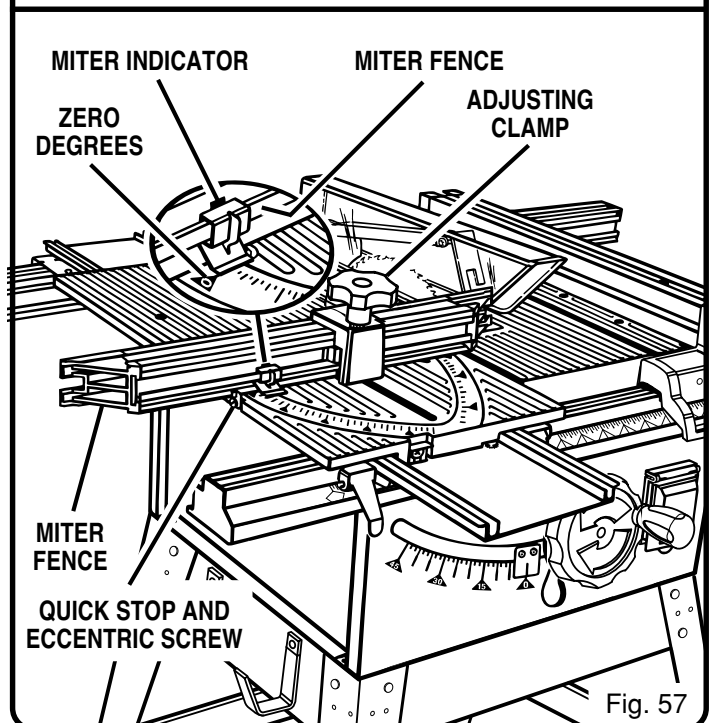

Fig. 57
- Place the quick-stop against the miter fence with miter scale set at  $0^\circ$ . See Figure 57.